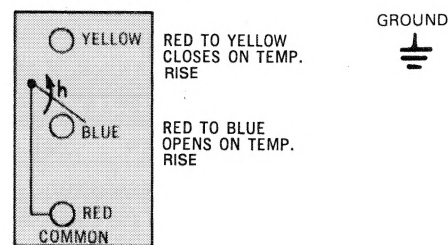

Figure 5 — Terminal arrangement
2. The Chromalox Type PIT Thermostat has an enclosed SPDT switch contact unit. Wiring terminals are accessible by removing the cover and may be wired to open on temperature rise (Red to Blue), or to close on temperature rise (Red to Yellow). See Figure 5.